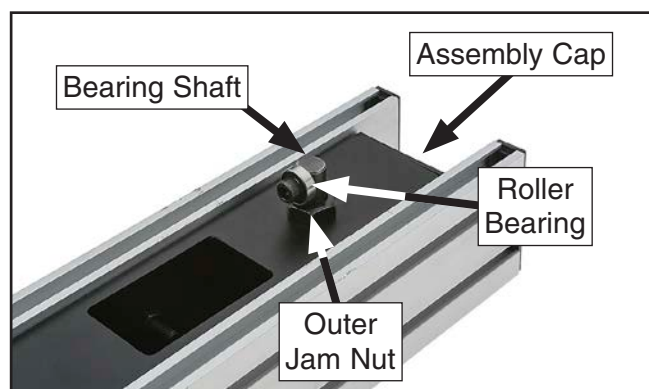

Figure 122. Rear adjustment area for leveling fence.
6. Remove fence assembly cap as shown in **Figure 122**, then loosen inner and outer jam nuts that secure bearing shaft.